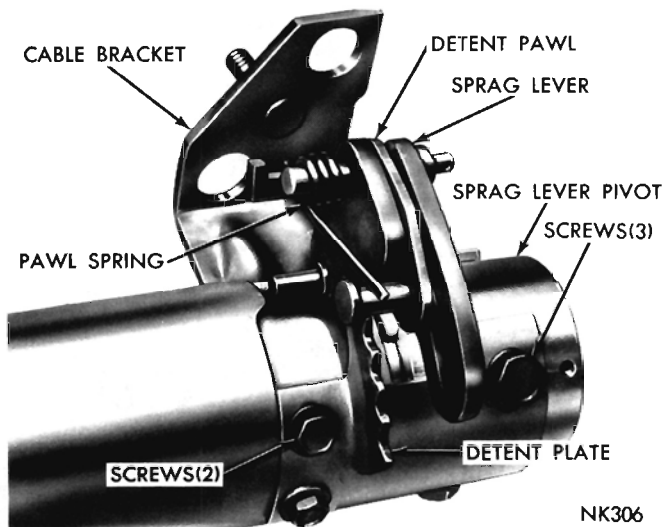

Fig. 11—Lower End of Column—Assembled View
(7) Remove the pawl spring (Fig. 11). Remove three
(7) Refer to Figure 11, and install the detent plate with screws finger tight. Install the detent pawl and sprag lever. **Do not install the pawl spring.** Install nylon washer and sprag lever pivot. Press the pivot inward by hand (against spring tension) far enough to start the three screws through the slotted holes in the column jacket. Do not tighten the screws.
(11) Install the cable bracket (Fig. 11) and tighten the two retaining screws. Slide the seal (boot) down in position over the cable bracket.